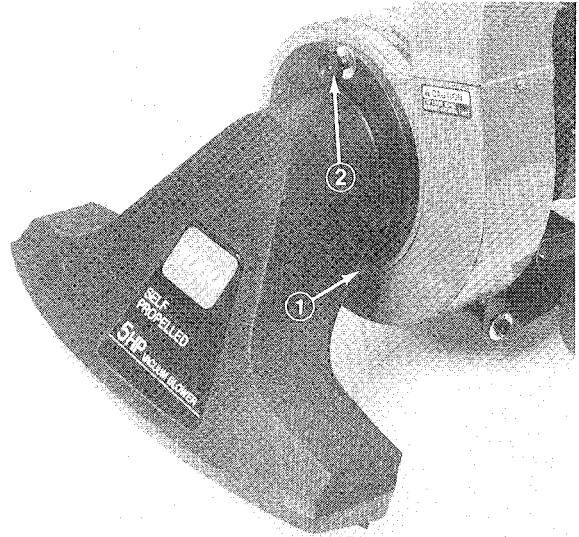

Figure 8
2. Secure snout to blower with washer and knob (Fig. 8).